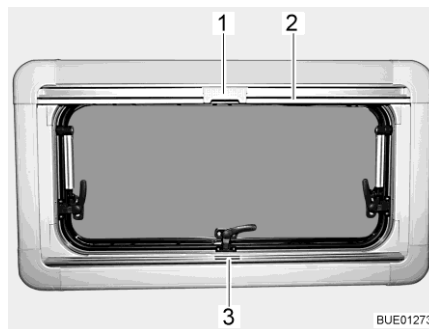
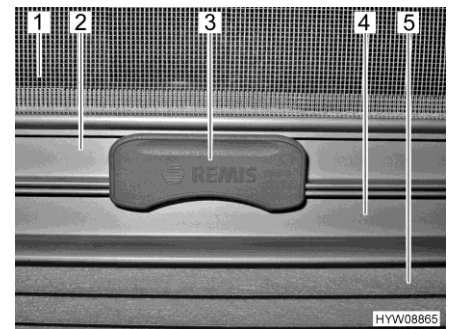

Fig. 19 Hinged window
Fig. 20 Catch
**Roman shade** The Roman shade (Fig. 20,5) is located in the lower blind box.
- Seize the Roman shade by the centre of the holding bar (Fig. 19,3 and Fig. 20,4), pull it from the bottom to the top and release it at the desired height. The Roman shade will stay at this height.
**Insect screen** The insect screen (Fig. 20,1) is located in the upper blind box.
- Pull the insect screen down by the holding bar (Fig. 19,2 and Fig. 20,2), until it touches the holding bar of the Roman shade (Fig. 20,4).
- Clip the catch (Fig. 19,1 and Fig. 20,3) on the insect screen into the holding bar of the Roman shade. When the catch is locked, the Roman shade and the insect screen can be adjusted together.
- Push the catch (Fig. 20,3) on the insect screen upward.
- Move the insect screen back slowly on the holding bar (Fig. 19,2).